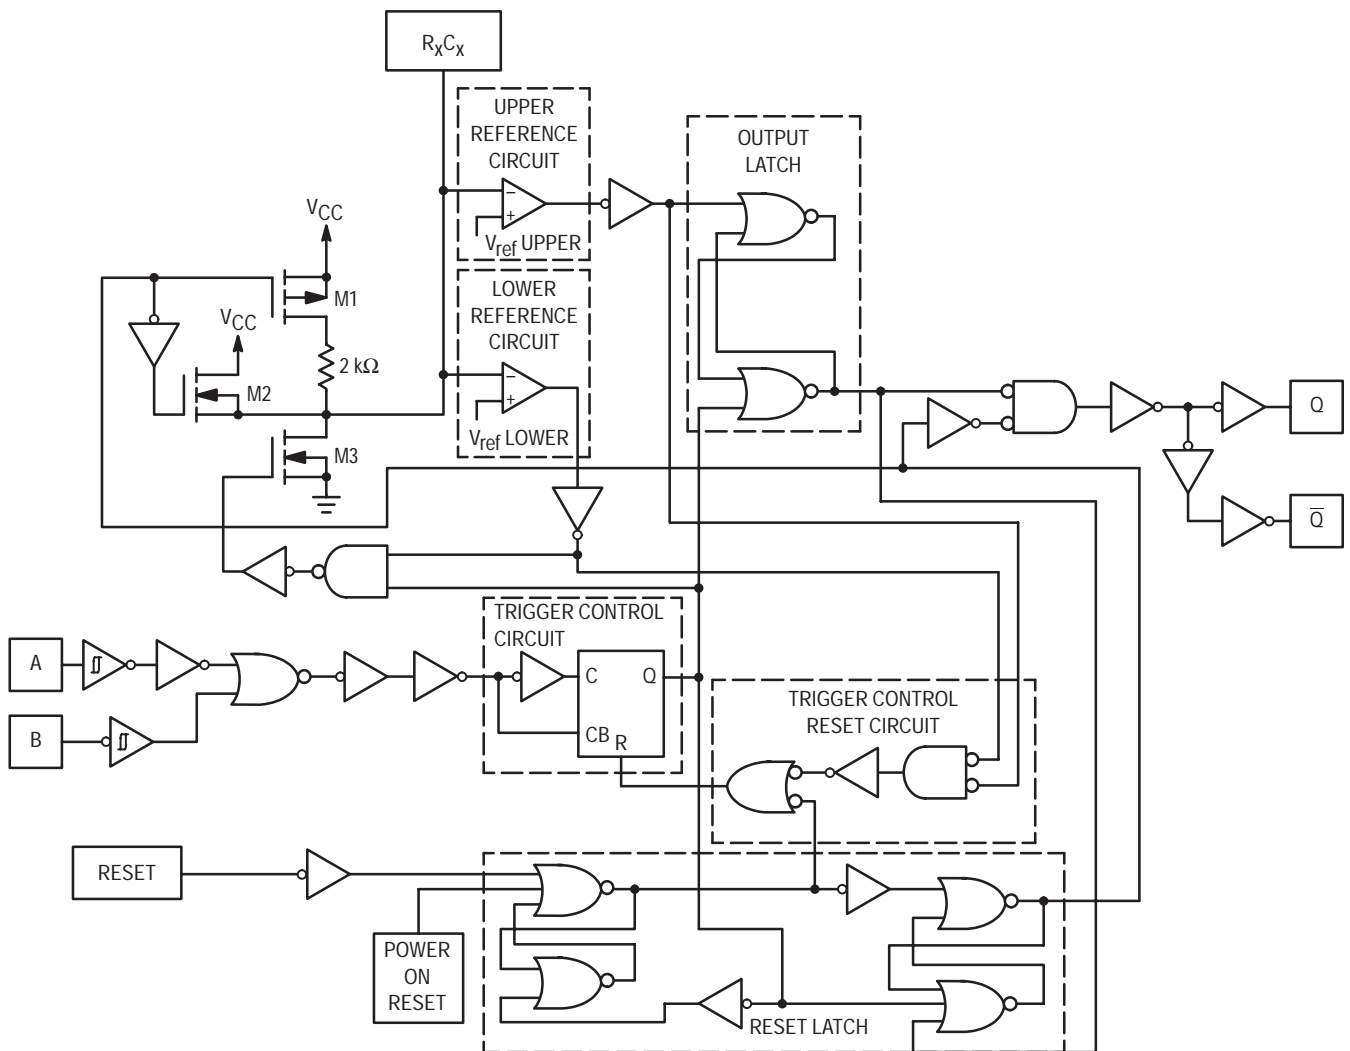

Figure 2. MC74HC4538A Logic Circuit Detail
- 1) Time to discharge  $R_x C_x$  from  $V_{CC}$  to ( $V_{ref\ lower} = 1/3 V_{CC}$ )  $T_{discharge}$ . This discharge occurs quickly because external resistance,  $R_x$ , does not have any effect on the  $R_C$  time constant. The resistance in the discharge path, as seen in Figure 2, is the on-resistance of M3, and the interconnect resistance. The interconnection resistance is dependent on the polysilicon sheet resistance, the metal sheet